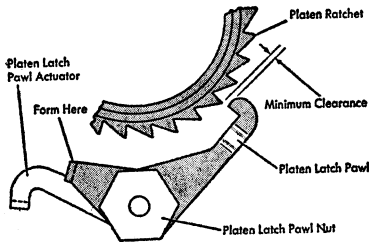

Figure 1. Platen Latch Pawl Adjustment
- With both sectors loosened, position the detent release lever in the center position. Form the front end of the platen latch pawl for minimum clearance between the rear of the pawl and the teeth of the platen ratchet (Figure 1).